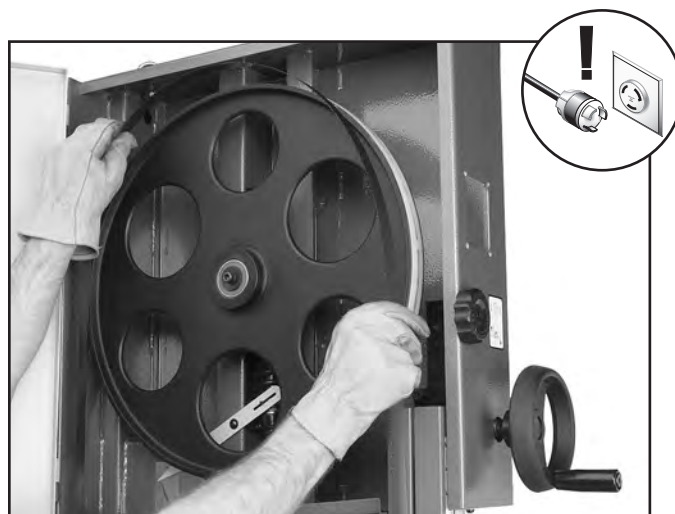

Figure 48. Typical example of placing blade on the wheels.
2. Slip blade through guides, and mount it on upper and lower wheels (see **Figure 48**).